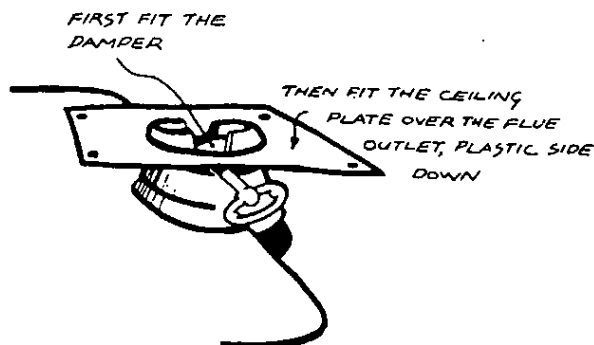

FIGURE 18
2.1.6 Ensure that the Damper is in position and place the Ceiling Plate, with the plastic coated side down over the flue outlet flange on the stove, Figure 18.